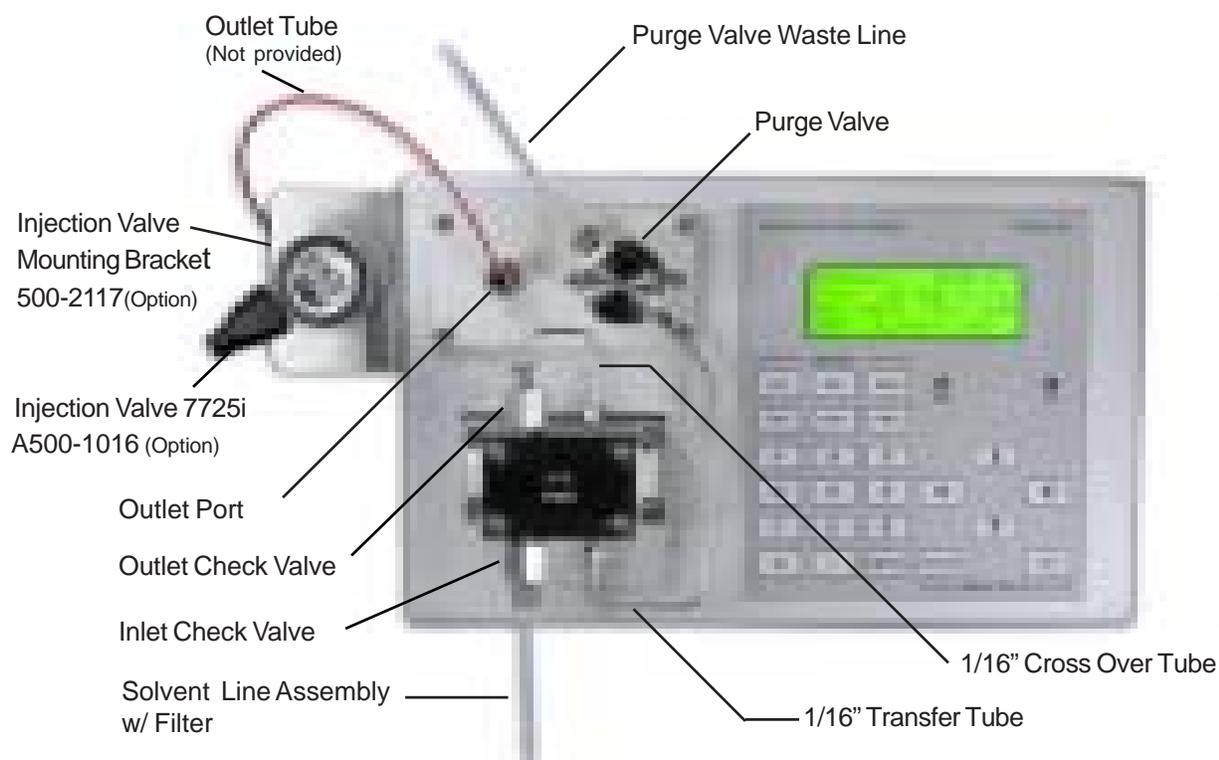

Figure 1. Front View
3. Install the solvent inlet line assembly (1/4-28 finger tight fitting) and solvent filter to the pump inlet check valve (**figure 1**). Always use a solvent filter to protect the check valves and system hydraulics from contaminants. Solvent bottles should be placed at approximately the same level as the pump or higher. In special circumstances the solvent reservoir can be located below the pump inlet (maximum 36") without a loss of pump performance.
4. Install the purge valve waste line assembly (1/4 – 28 finger tight fitting) to the purge valve, with the outlet placed in a suitable solvent waste container (**figure 1**).
5. Install an outlet tube (not provided) to the outlet port to connect the Model 501 pump to the rest of the chromatographic system. The outlet port will have a black plug in it for shipping and is located directly to the left of the purge valve (**figure 1**).